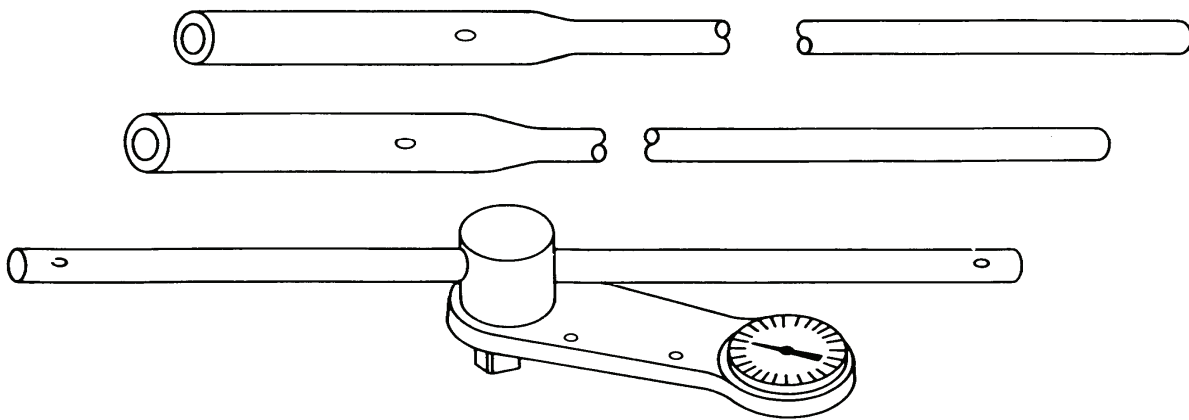

Figure 7. Type II, style C torque wrench, rigid case with presetting dial (direct reading with flashlight signal).
**Torque Wrench, Direct Reading with Flashlight Signal:** (figure 7). Check standard dry-cell battery for possible current failure in flashlight attachment. Gradually apply perpendicular force on handle of TI until needle on indicator dial reaches preset pin, making contact and lighting bulb. Stop applying force at this point.